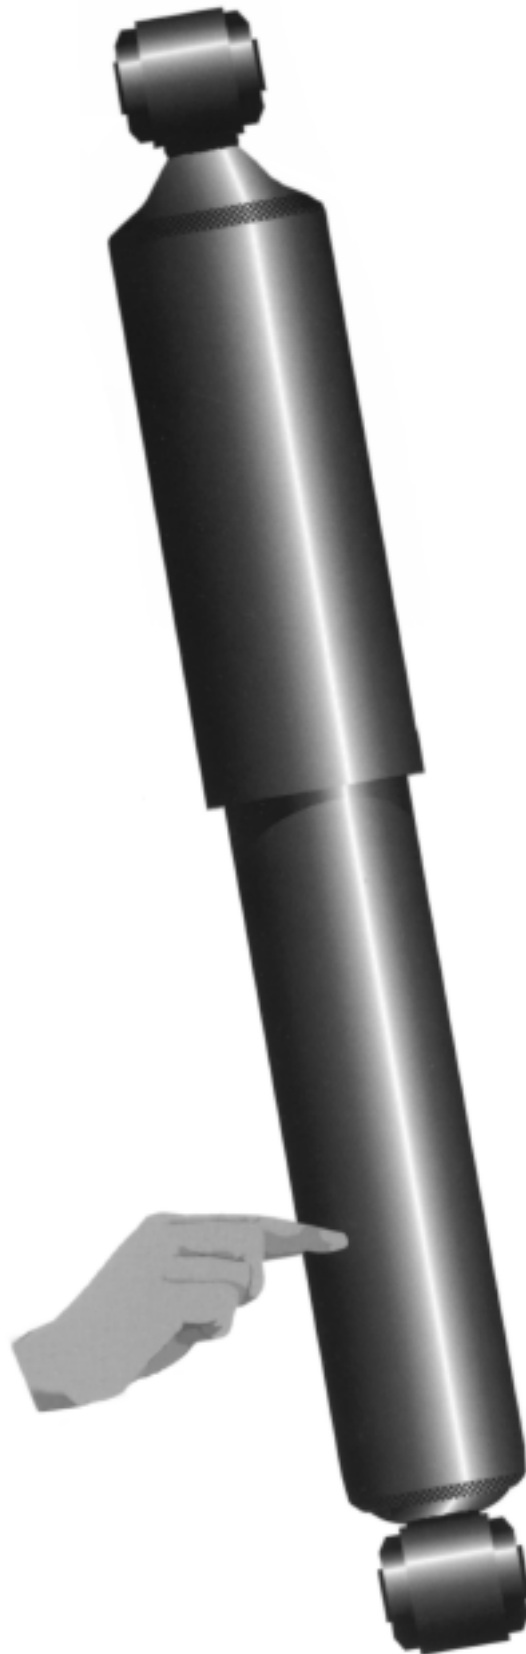

Figure 1: Shock
2. Within a few minutes of pulling the trailer, touch each shock absorber carefully on its body below the dust cover or tube (Figure 1), after first touching a nearby part of the frame to establish a reference ambient temperature of the metal.